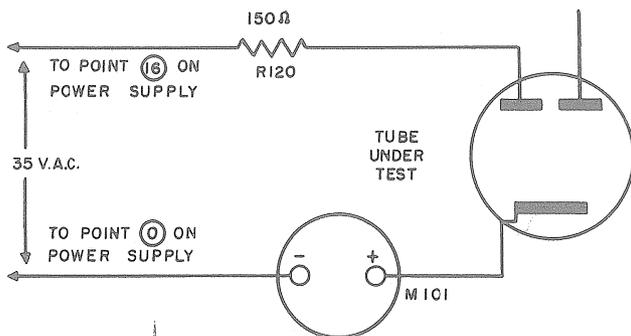

Figure 2-6.—Simplified Rectifier Test Circuit.
7. RECTIFIER TEST. (See Figure 2-6)
e. Pressing the button P-6 sets up a circuit similar to figure 2-6, but a higher voltage is applied, 330 volts ac, for testing rectifiers of the cold cathode type such as the OZ4 type.
f. Pressing button P-2 also establishes a circuit similar to figure 2-6, but a lower voltage, 20 volts ac, is used to protect the delicate cathodes of diode detector types such as the 6H6.